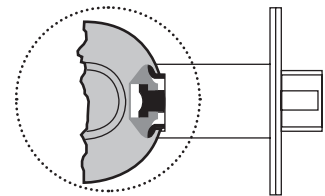

Fig. 15
- d. Lockbody must engage both the latch unit prongs and tail piece. (Fig. 15)